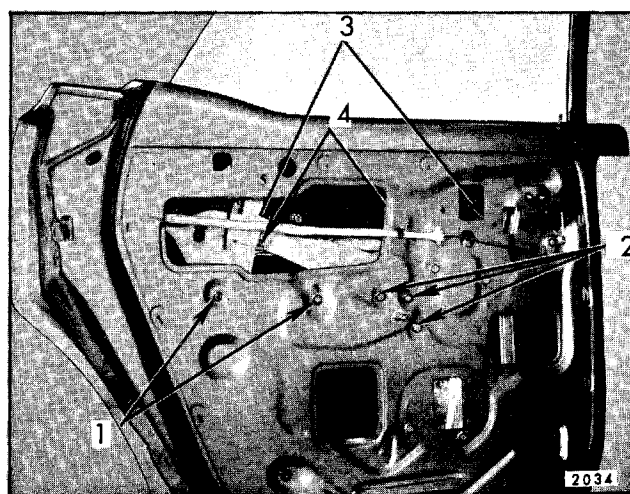

Fig. 7-159—Rear Door Hardware “A-39” Style
3. On guide to be removed, remove upper attaching bolts and lower adjusting stud nut and remove guide (see Fig. 7-159).
4. Remove regulator attaching bolts and remove regulator assembly (See Fig. 7-159).